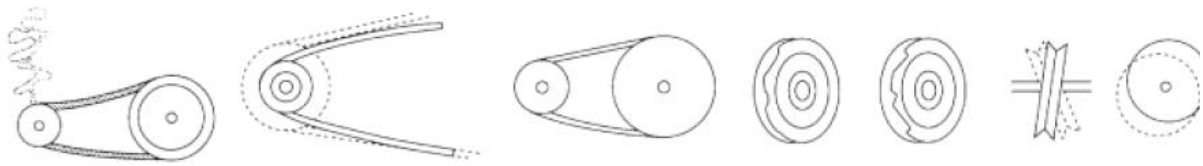
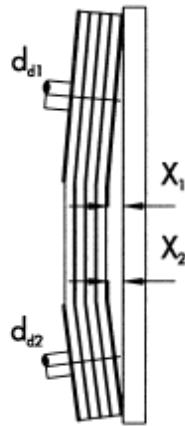

Figure 208: Unfavorable operating conditions (2)
Figure 211: Adjustment of pulleys
The V-belt drive is a reliable, low-maintenance component, provided that unfavorable working conditions as shown in **Figure 208** up to **Figure 211**, which could reduce durability and result in reduced efficiency. The unfavorable conditions include high temperatures and inadequate filtered air and thus formation of deposits.
- Belt contact the groove bottom / unequal set of belt / tension is too high or too low – **Figure 208**
- Alignment / offset wheels / non-parallel plates / discs rotated to each other – **Figure 211.**